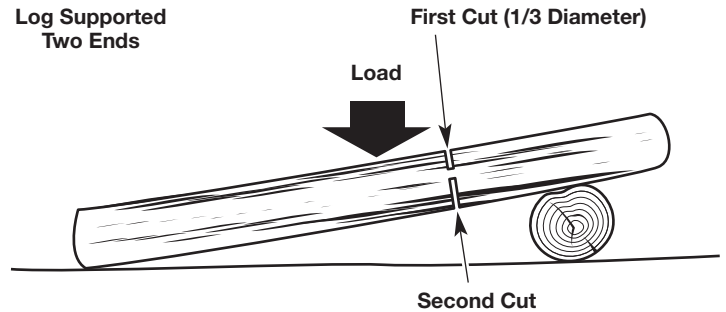

Fig. 15
- If the log is supported on two ends (Fig. 15), make the first cut from above (overbucking). Refer to *Overbucking*.